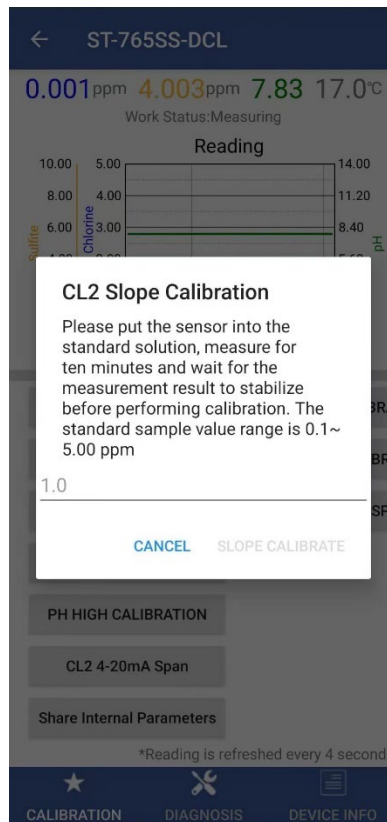

Figure 7 — Enter Free Chlorine Concentration to begin Slope Calibration
The ST-765SS Series must be slope calibrated in the ST-007 (for clean water) or the FR-300-PLUS flow reservoir (for industrial water) used with the sensor and must have **CONSISTENT** flow within the specified range as outlined in the specifications section 1.0 of this manual. Determine the Free Chlorine concentration in ppm of the sample water taken from the sensor flow tee/reservoir output sample by using the DPD method on a portable or laboratory colorimeter (i.e. Pyxis SP-200 / SP-800 / SP-910 or similar). Launch the uPyxis app and connect to the ST-765SS Series sensor. Tap **SLOPE CALIBRATION**. Enter the Free Chlorine concentration determined by the DPD method in the dialog window as shown in Figure 7. Please make sure that the sensor reading has been stable for at least 10 minutes before calibration. For best results, the concentration of the bromine sample flow standard should be in the range of 0.1 to 5.0 ppm.
*Slope-point Calibration:* Insert the ST-765SS Series sensor back into the ST-007 tee or the FR-300-PLUS flow reservoir and reestablish sample flow. The ST-765SS-DCL sensor must be slope calibrated for Free-Chlorine based on DPD test method results of the actual system sample while installed in the ST-007 tee or the FR-300-PLUS flow reservoir used with the sensor and exposed to consistent system sample flow for the installation method being used as outlined in the specifications section 1.0 of this manual. Determine the free chlorine concentration by using DPD method on a portable or laboratory colorimeter (i.e.. Pyxis SP-200 / SP-800 / SP-910 or similar). Tap **CL2 SLOPE CALIBRATION** and enter the test result value in Calibration Screen as shown in Figure 7. Please make sure that the sensor reading has been stable for at least 10 minutes before calibration. For best results, the concentration of the Free Chlorine sample flow standard should be in the range of 0.1 to 5.0 ppm.